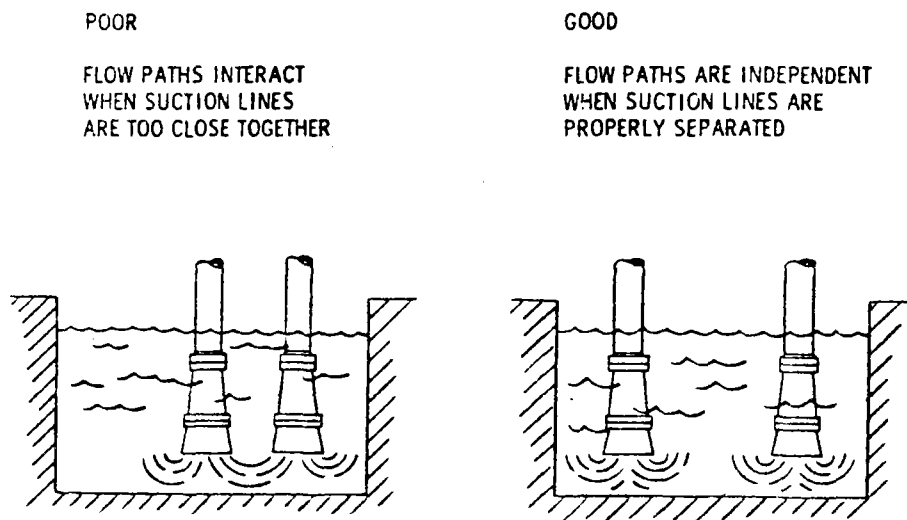

Figure 6. Using two pumps in the same sump.
b. When two suction lines are used in one sump, install the inlets at least three feet apart. If the suction inlets are too close together, the flow paths may interact reducing the efficiency of one or both pumps (see Figure 6).